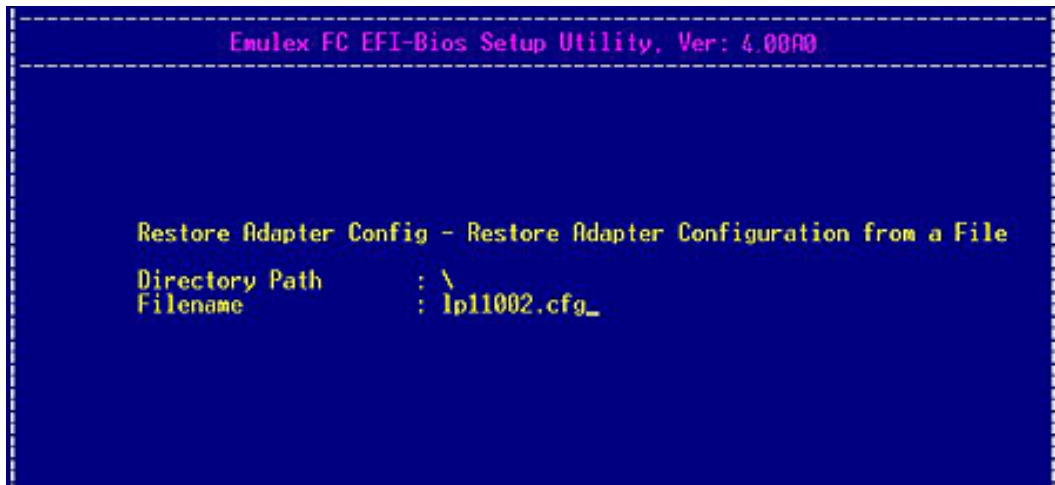

Figure 6-38 Read Configuration Path Screen
2. Select **2. Read Configuration From File**. The screen shown in Figure 6-38 prompts you to enter a directory path to the previously saved configuration file.